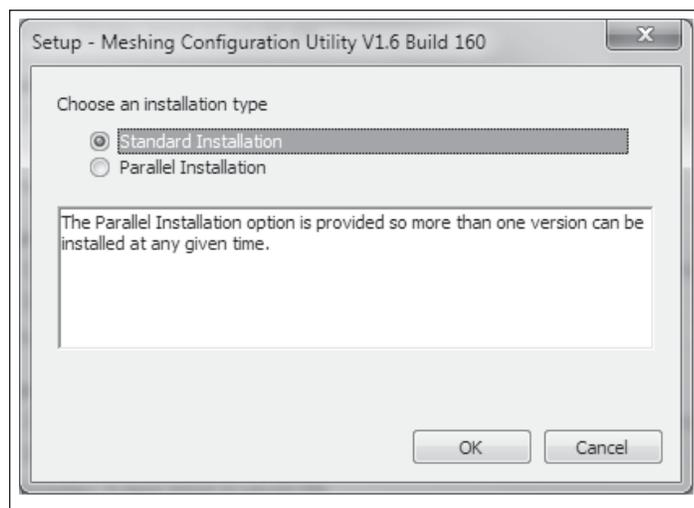

Figure 24. Choosing the installation type
5. Follow the on-screen instructions to install the software (see **Figure 24**).